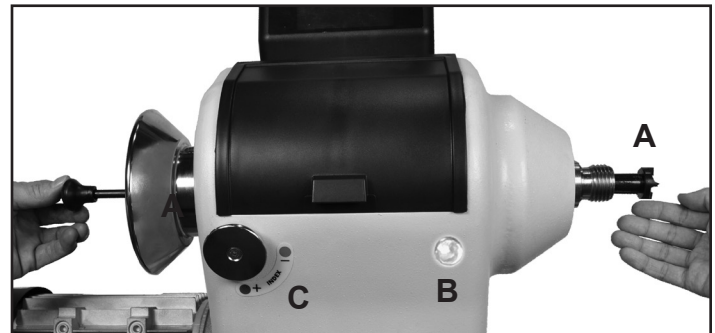
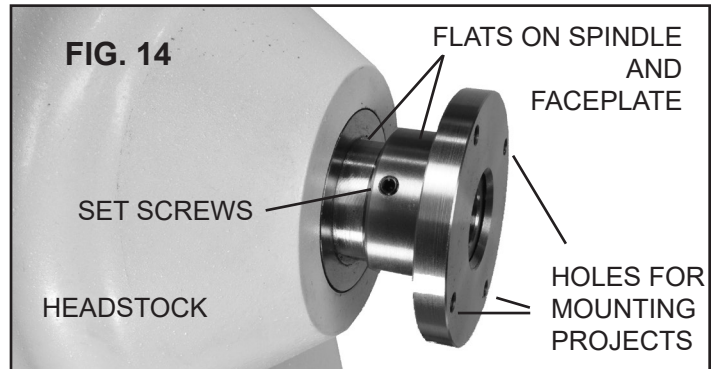

FIG. 13
FIG. 15
NOTE: Be careful and hold the live center during this process so it does not fly out onto the floor. Same process as shown in Figure 13 for the spur center.
NOTE: Be careful and hold the spur center during this process so it does not fly out onto the floor. Figure 13, A.
To safely hold the spindle in place to remove accessories, use the lock button, FIG. 13, B.
To *REMOVE* the faceplate, first loosen the set screws. The spindle and rear hub of the faceplate each have flats that are for use with open end wrenches. FIG. 14. Use the Spindle Lock (FIG 13,B) or an extra large, double ended wrench (V) (38mm/46mm) for holding the spindle. Then use a wrench to hold the back hub of the faceplate for removal of the faceplate. Use the same process for removing a chuck. Figure 15.
NEVER USE THE INDEX PIN TO HOLD THE SPINDLE TO REMOVE ACCESSORIES, OR DAMAGE TO THE PIN OR THE SPINDLE PULLEY WILL RESULT. FIG. 13, C.
USE THE SPINDLE LOCK TO SAFELY SECURE THE SPINDLE. FIG. 13, B.